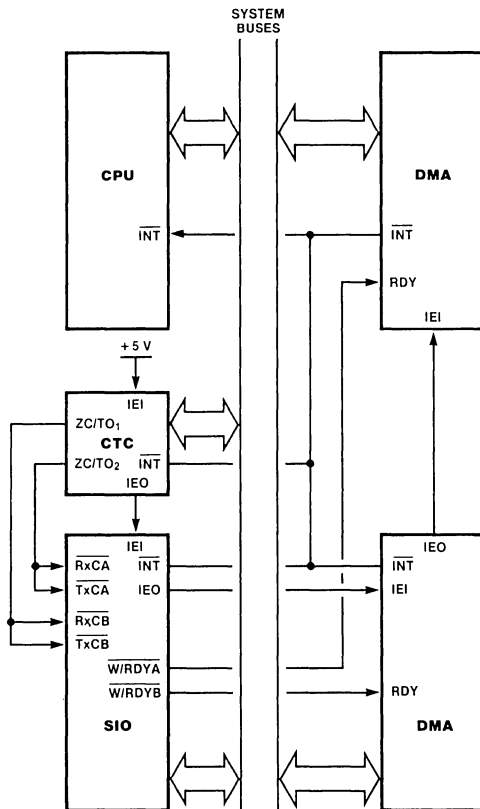

Figure 11. Typical Z80 Environment
In a Z80 CPU environment (Figure 11), SIO interrupt vectoring is "automatic": the SIO passes its internally-modifiable 8-bit interrupt vector to the CPU, which adds an additional 8 bits from its interrupt-vector (I) register to form the memory address of the interrupt-routine table. This table contains the address of the beginning of the interrupt routine itself. The process entails an indirect transfer of CPU control to the interrupt routine, so that the next instruction executed after an interrupt acknowledge by the CPU is the first instruction of the interrupt routine itself.